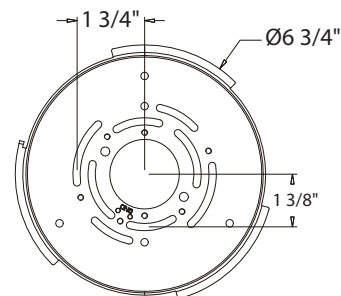

Fig.3 Driver Wires
MOUNTING THE FIXTURE (Fig. 1 / Fig. 3)
- b) Due to limited space within the canopy, shorten the cable as necessary to make the installation easier. Make sure to identify and label all the wiring properly before any trimming/shortening (Fig. 3).
CONNECTING THE WIRES (Fig. 2 / Fig. 3/ Fig. 4)
6. Connect the fixture, CCT switch, and driver's output wires to center cable as shown in Fig. 3, red to the green+, black to the black, blue to the black W-, brown to the White C-, make sure that wire connectors(A) are secured. Then tuck them inside the canopy.